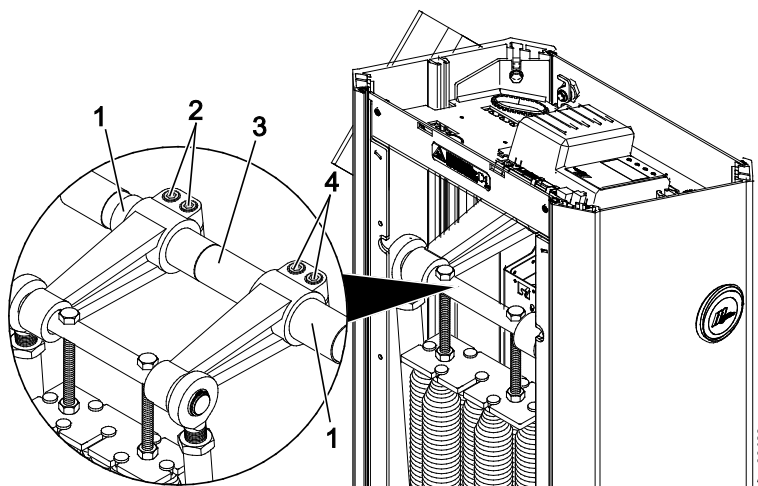

Fig. 29: Access XXL – Loosen hexagon socket screw
→ For Access XXL see page 70, Fig. 29.
- For Access XXL see page 70, Fig. 29.